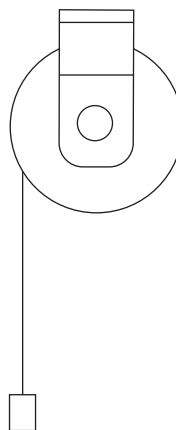

Figure 3-4
3.0.4.1 The cable is lifted vertically in lift applications. The reel is normally designed to handle only the total weight of the cable. Some lift applications may require ball stops to control the length of cable to be retracted. **See Figure 3-4.**